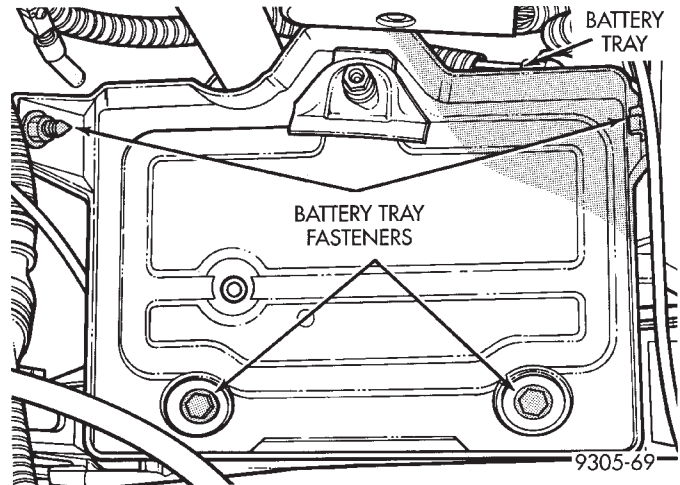

Fig. 13 Battery Tray Attaching
(7) Install battery tray back in vehicle and install and tighten the 4 battery tray to vehicle attaching fasteners (Fig. 13).
(8) Bleed the air from brake hydraulic system. Refer to the Bleeding Teves Mark IV Anti-Lock Brake System in this section of the manual for proper